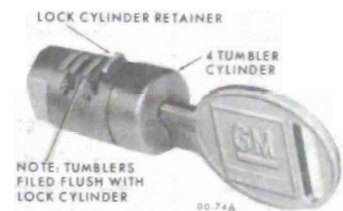

Figure 00-12 - Coded Glove Compartment Lock Cylinder
4. Reverse lock cylinder position in vice and repeat Step 5 for bottom of tumblers. See Figure 00-12.